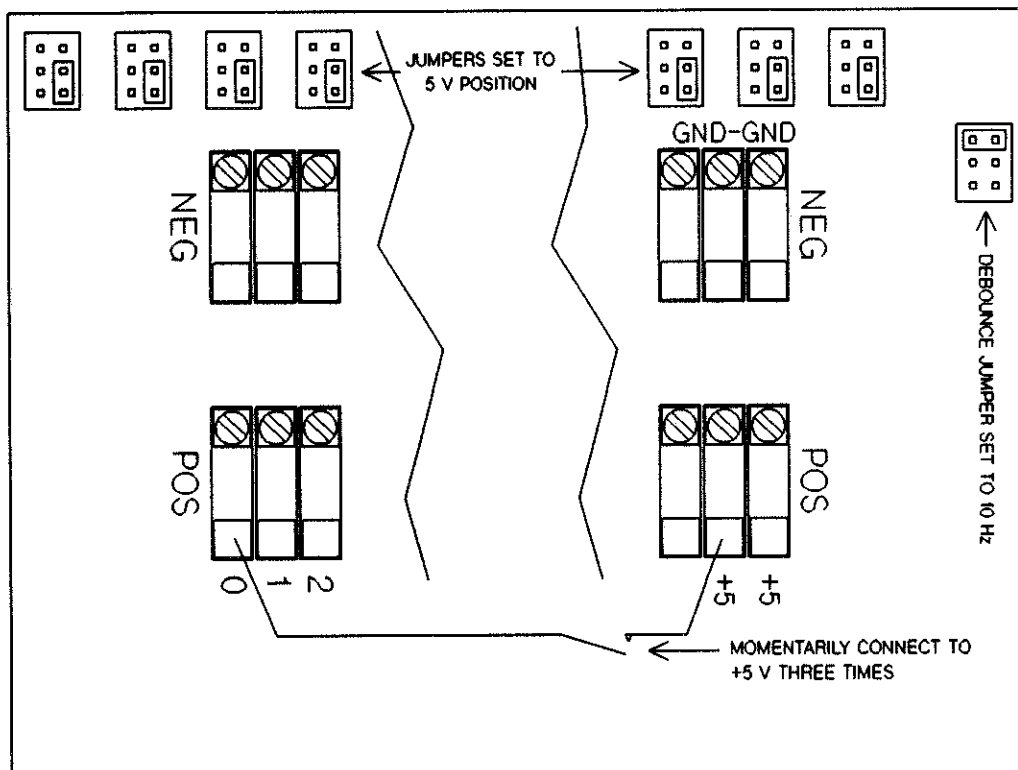

Figure 12-8 Even Channel Counter Test
2. Refer to Figure 12-8. On the test fixture, set the debounce jumper to the 10 Hz position.
4. Refer to Figure 12-8. With a jumper, momentarily connect the shorted even numbered channel POS (positive) connections to the +5 V connection three times.